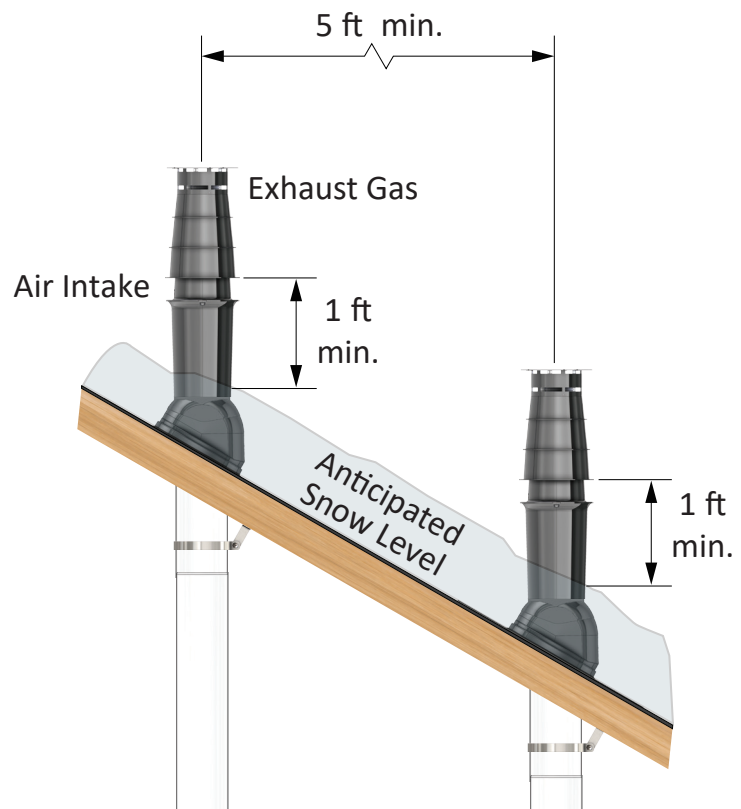

Figure 17 - Sloped Roof Termination
- On a different level: 5 ft. spacing between each termination (Figure 17).